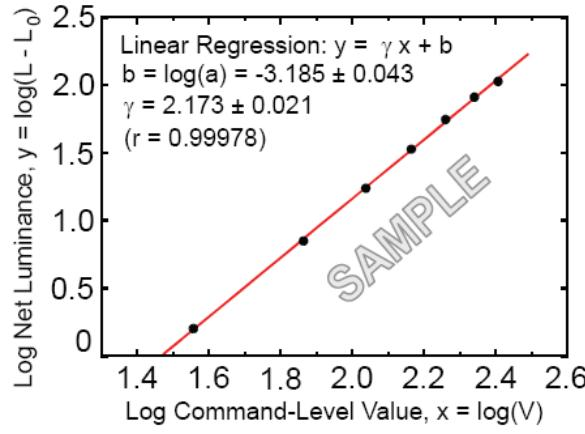

**FIG. 6 Sample Luminance vs. gray scale
7. Effective viewing angle is the angle at which the gamma shift of gray scale is lower than 0.3. For more information see FIG 6 and FIG 7.